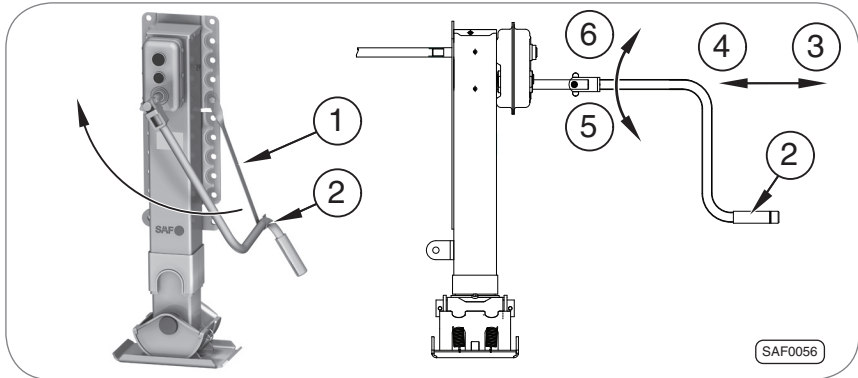

Fig. 9 · Operation of the support device (figure: SAF Titan)
1. Remove the crank handle from the crank holder and fold it out into the horizontal operating position (see page 15, fig 9).
2. Select high gear or low gear (items 3 and 4) and turn down the support device (item 5).
2. Select low gear (item 4) and turn the support device up to the required height (item 6).